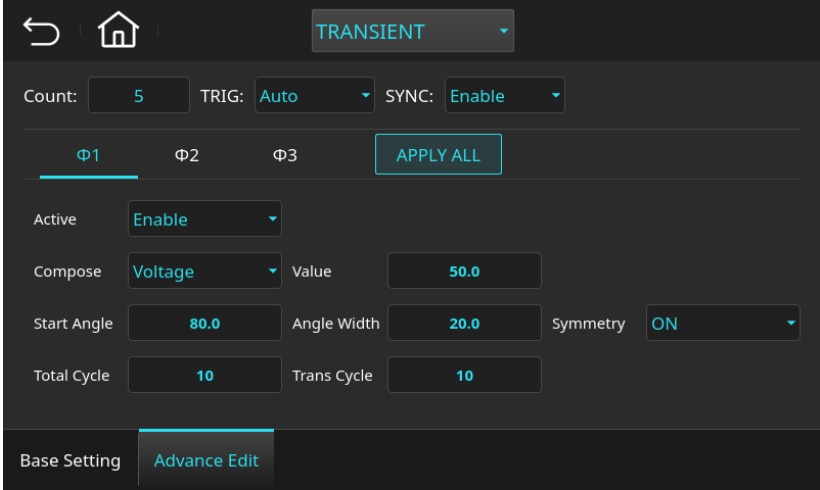

Figure 5-39 Transient Waveform Mode Setting Page (Example Parameters for Phase 1 – Sag)
7. Repeat steps 1 to 4 above, set TRIG = Auto, and edit the parameters as shown in Figure 5-39.